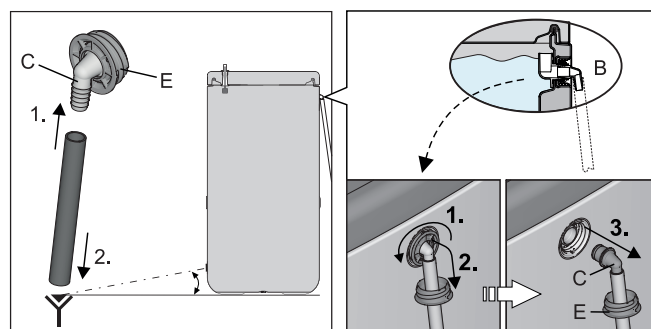
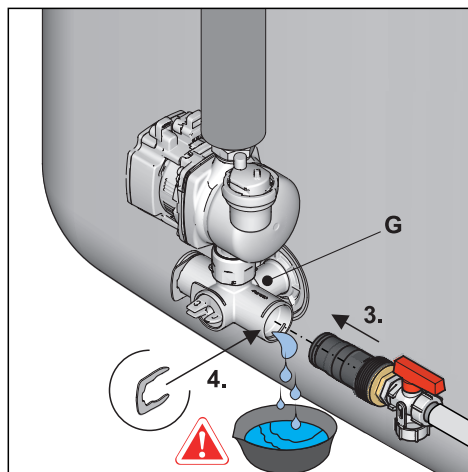

Fig. 8-1 Installing the drain hose; optional: Detaching the connecting piece from the safety overflow
Fig. 8-6 Installing the combined filling and draining filling connection in the connection bracket
- Connect the drain hose to the **combined filling and draining filling connection (combined filling and draining BA accessories)** (Fig. 8-1, item A) and to a waste water drainage point which is at least at ground level.
If no **combined filling and draining filling connection** is available, the connecting piece (Fig. 8-1, item C) can be detached from the safety overflow (item B) and used.
Tab. 8-1 Legend for Fig. 8-1 to Fig. 8-6
- 1 Adjust the valve insert on the connection bracket so that the path to the blind plug is blocked off (Fig. 8-6).
- 2 Place a suitable collecting tray and remove the blind plug from the connection bracket (Fig. 8-6).
- 3 Insert the **combined filling and draining filling connection** in the connection bracket and secure with the holding clamp (Fig. 8-6).